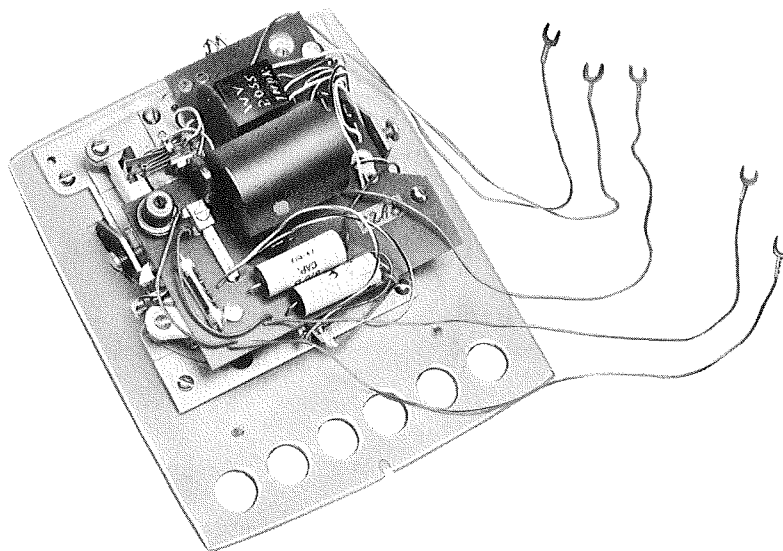

Fig. 2 - 22A Dial, Rear View
2.05 The 22A dial is equipped with a transistor-oscillator which generates the customer dialing signals. The oscillator is powered by the telephone line current. A rear view of the dial is shown in Fig. 2.